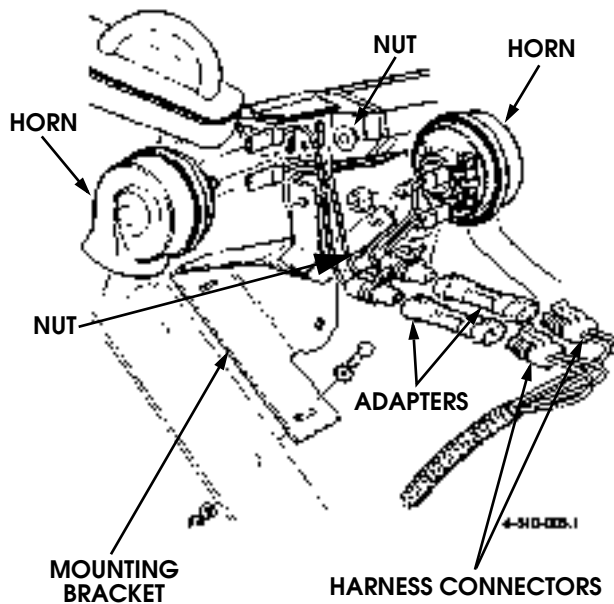

Figure 10-101: Horn and Horn Mounting Bracket Replacement
2. Remove nut and horn from mounting bracket (Figure 10-101).
2. Remove bolts, washers, lockwashers, nuts, and horn mounting bracket from airlift bracket (Figure 10-101).
1. Secure horn mounting bracket to airlift bracket with bolts, washers, lockwashers, and nuts (Figure 10-101).